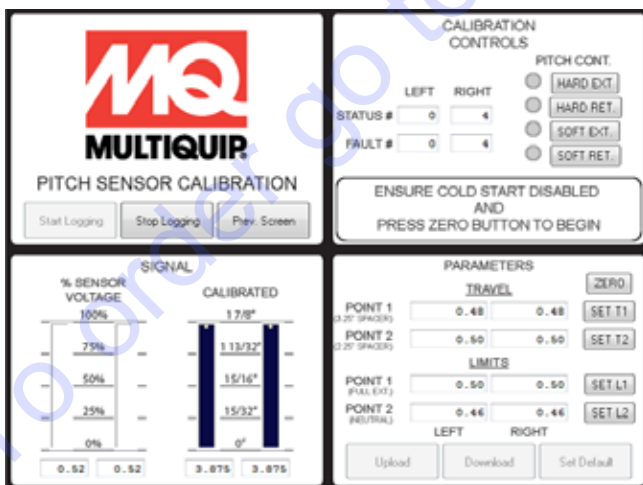

Figure 42. Start Pitch Sensor Calibration
4. Press "zero" button (Figure 42) to begin calibration.
- e. Press "Set T1" button (Figure 42).